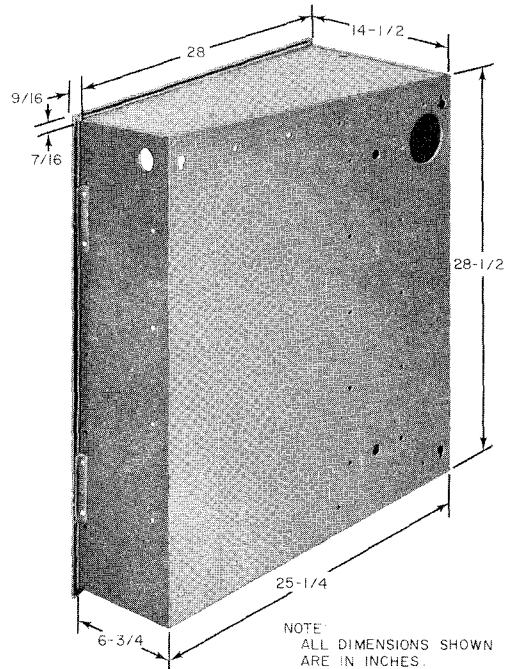

Fig. 9—Rear View of Housing
(a) Refer to Fig. 9 and 10 for dimensions and cut hole in wall to accept housing. Minimum depth shall be 15-1/2 inches.
- (c) Install housing in cutout and secure it to walls. Thirteen mounting holes are available in back of housing and four holes are available at each end behind perforated panels (Fig. 9). Housing should be made level by shimming. Use fasteners specified in Table B.